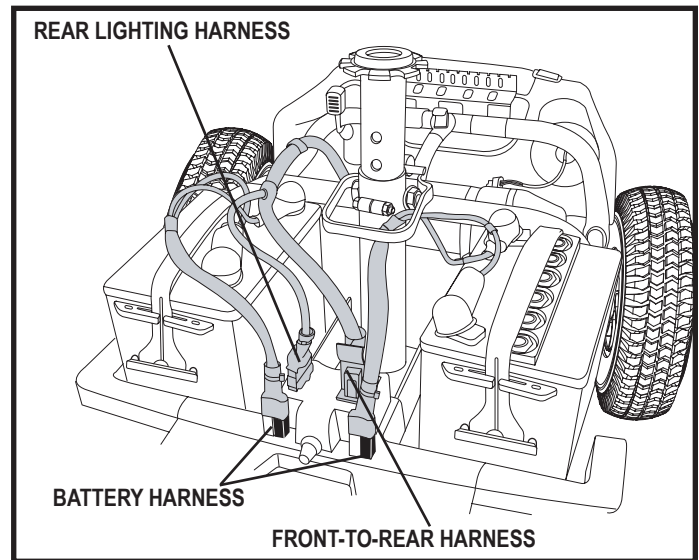

Figure 24. Harness Connections
6. Unplug both battery harnesses. Pull each harness straight up. **See figure 24.**
6. Connect the front-to-rear harness, rear lighting harness, and both battery harnesses. **See figure 24.**